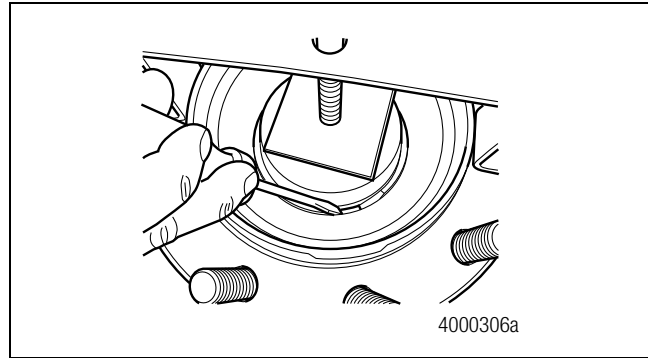

Figure 6.60
5. Use a screwdriver to install the snap ring into the hub unit groove. Press the end of the snap ring and continue around the entire length of the snap ring. Figure 6.60.